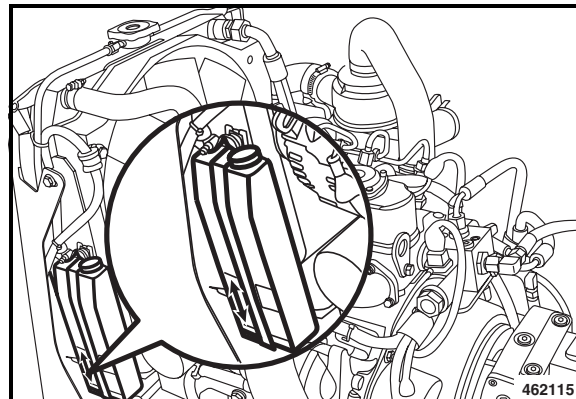

Fig. 164
- Fill in coolant up to the MAX mark (Fig. 164).